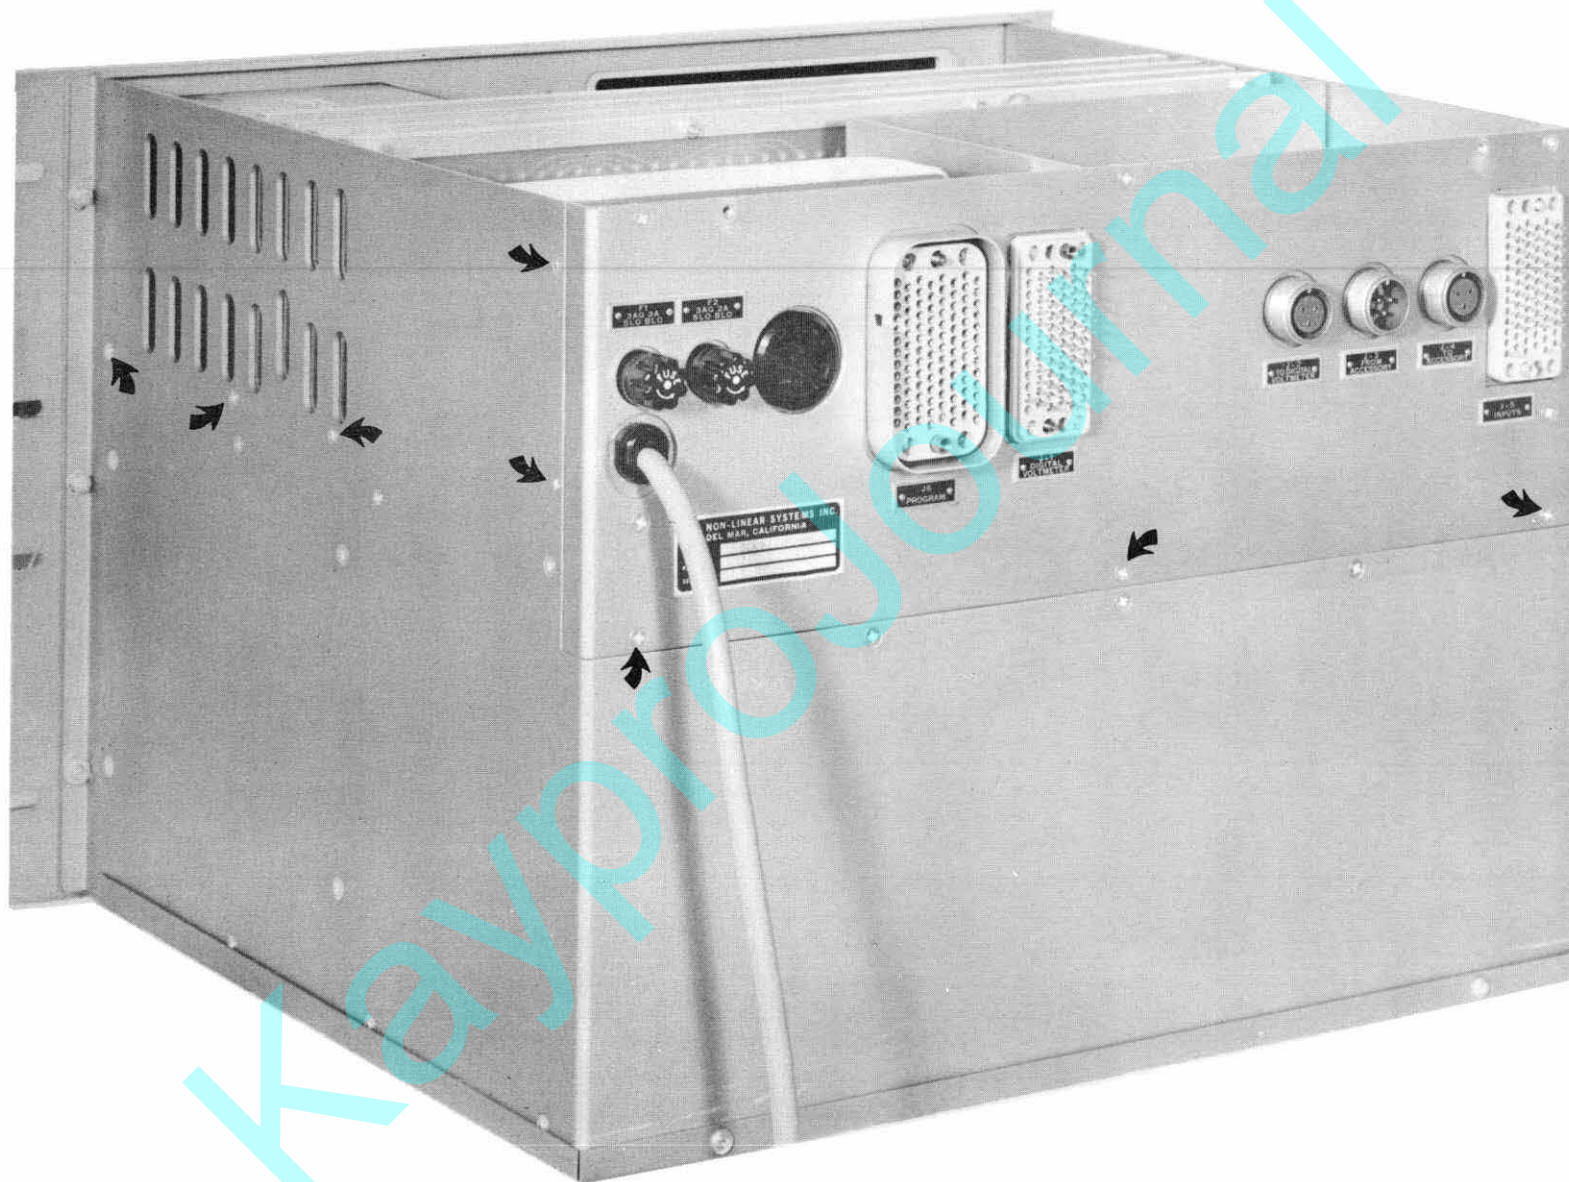

FIGURE 15
4. Remove screws indicated by arrows in Figure 15. Slide chassis assembly to rear and lift out.